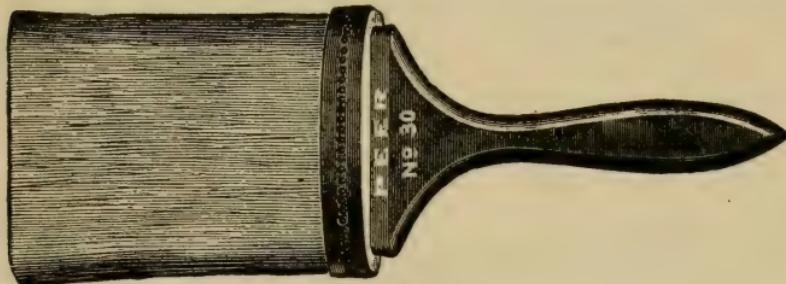

Fig. 3—Stucco Wall Paint Brush.
vents the losing of hair. See Fig. 3 for the shape of as “stucco wall” brushes. Some are also made by
f. Painters' dusters, either round or flat, and in many qualities of white or black bristles. The best quality is that known as the coach painter's duster and are made in white bristles only. The length and thickness of hair make the selling price higher and lower running from  $3\frac{1}{2}$  to 5 inches long. See Fig. 6 for the round. The flat is shaped like Fig. 3 only more loosely put together.